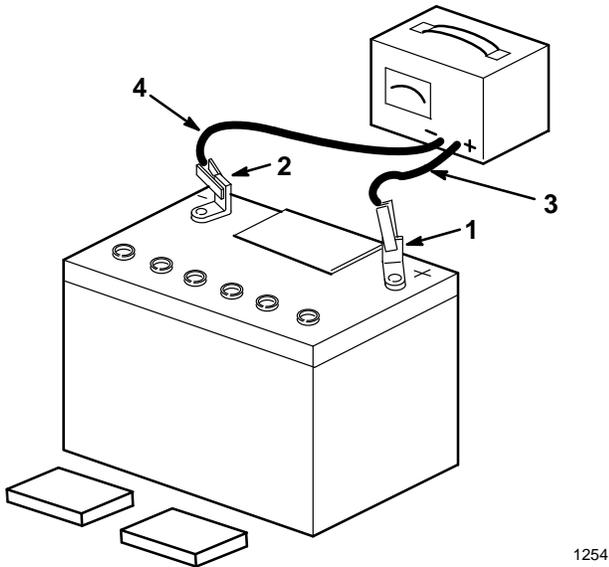

Figure 4
3. Leave the filler caps off and connect a 3–4 amp battery charger to the battery posts (Fig. 4). Charge the battery at a rate of 4 amperes or less for 4 hours (12 volts).
- When the battery is fully charged, unplug the charger from electrical outlet, then disconnect the charger leads from the battery posts (Fig. 4).